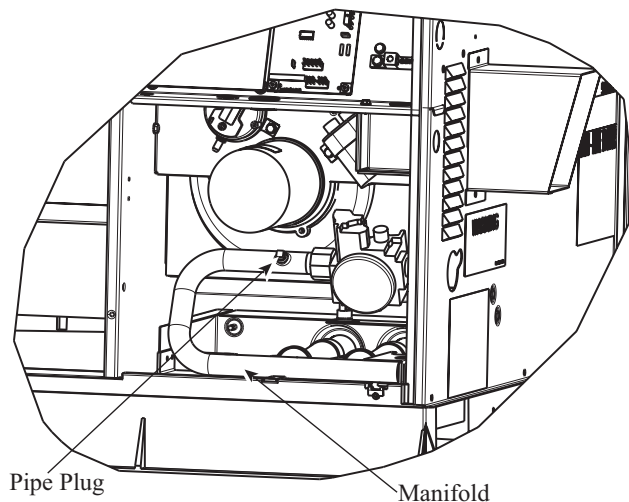

Fig. 27 – Burner Assembly
2. Remove pipe plug on manifold (See Fig. 27) and connect manometer. Turn on gas supply to unit.
4. Turn off gas supply to unit. Remove manometer from pressure tap and replace pipe plug on gas valve. (See Fig. 27.) Turn on gas to unit and check for leaks.